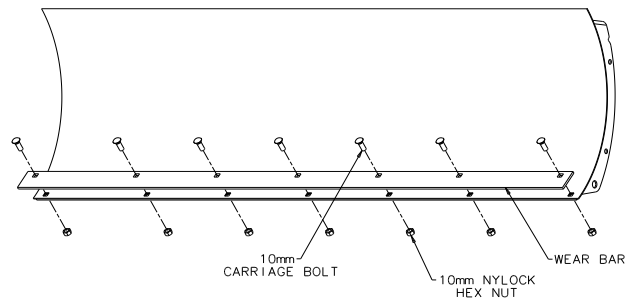

Figure 2 Assemble Wear Bar to Blade
3. Attach the wear bar to the plow blade as shown in figure 2. Place 10mm dia carriage bolts through each of the square holes in the wear bar, and through their respective holes on the blade. Terminate with a 10mm dia lock nut.